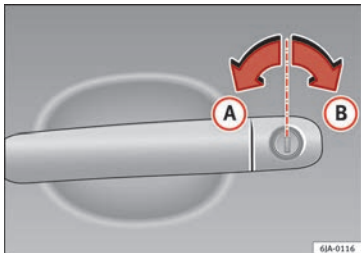

Fig. 38 Key positions during vehicle locking and unlocking.
- Turn the key in the driver door in the forward driving direction to its unlock position **(A)** »» **Fig. 38**.
- Turn the key in the driver door lock cylinder in the reverse direction to its lock position **(B)** »» **Fig. 38**.